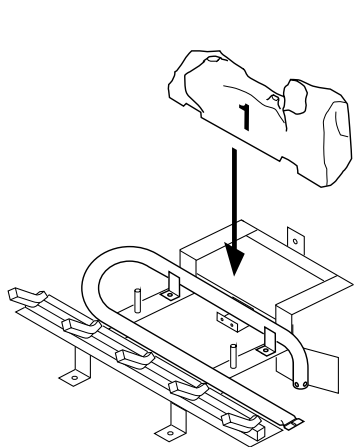

Figure 54 - Installing Log No. 1
It is very important to install these logs exactly as instructed in Figures 54 through 57. Do not modify logs. Only use logs supplied with freestanding burner system. Do not use if any log(s) are broken (see *Replacement Parts*, page 33).
2. Place log #1 (back log) on top of grate. Make sure the notches in the bottom of the log fit over the grate (see Figure 54).